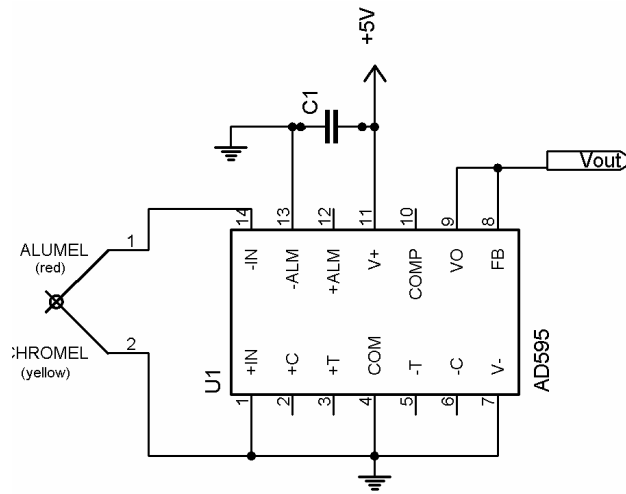

Figure 3. Thermocouple amplifier
- Using the thermocouple wire with only one junction, wire the TC amplifier as shown in Figure 3 on the breadboard of the 28/40 Development Board. Use V_{dd} and V_{ss} from the development board for +5 V and ground respectively.